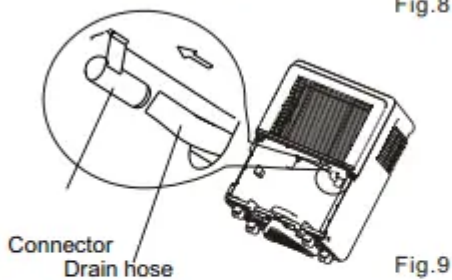

Fig.9
- Remove the plastic cover from the back drain outlet of the unit and set aside and remove bucket,then insert the drain hose through the drain outlet of the unit and securely press it into the connector on the front of the unit.(See.Fig.9)